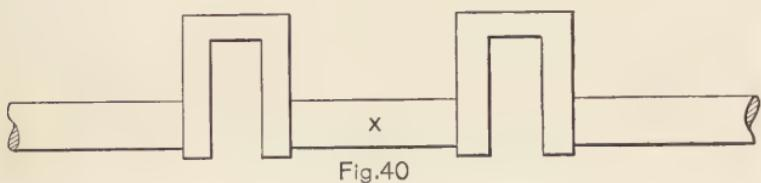
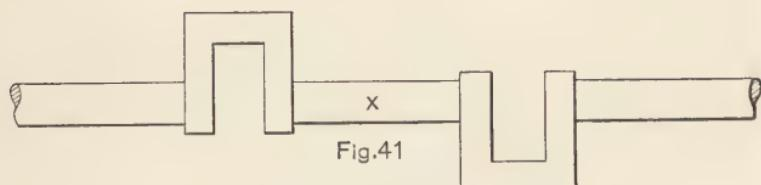

Fig. 40
Fig. 41
**Crankshaft.**—If called upon to make a crankshaft, as in Fig. 41, with two cranks, first forge with both cranks on the same side, as in Fig. 40; then heat at *X* and twist into shape. In this way it can be made from smaller stock than as though it were forged at first with the cranks opposite in their correct relative positions.